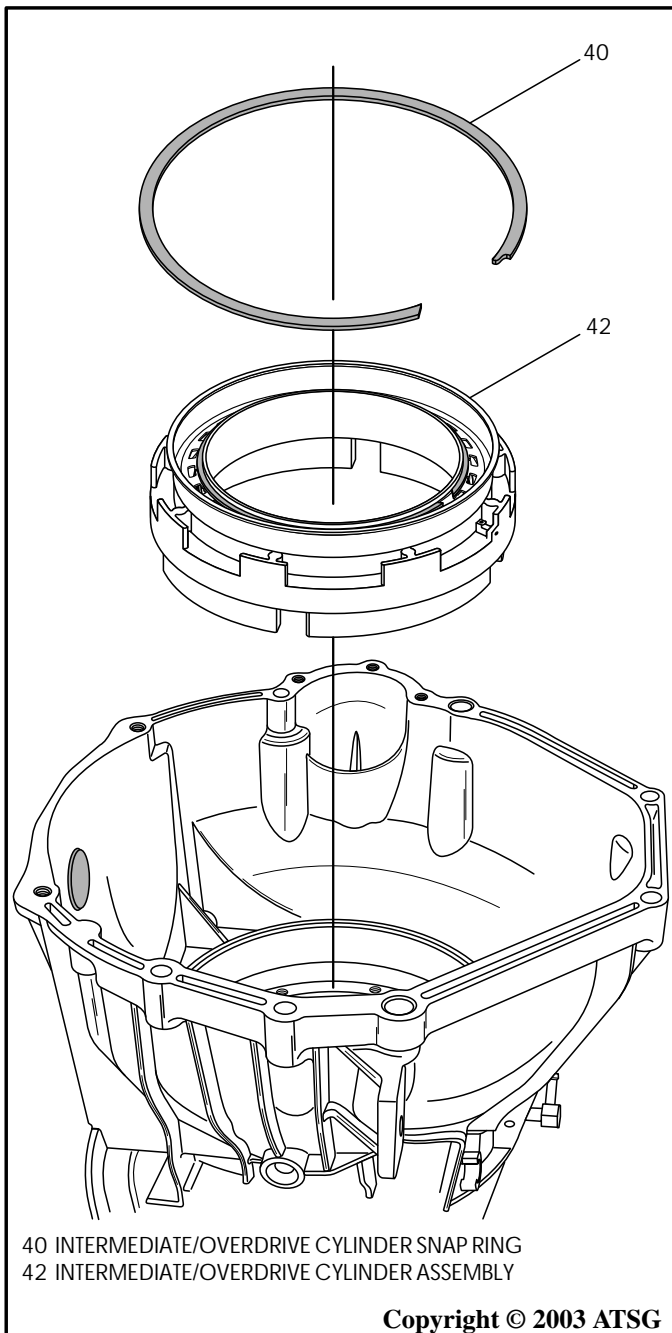

Figure 63
14. Remove snap ring and intermediate/overdrive cylinder assembly, as shown in Figure 63, and set aside for component rebuild section.